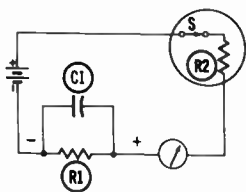

Fig. 9-14 Grid and cathode act as a closed switch when grid is positive with respect to the cathode.
If we look at the grid and cathode of the tube as a switch (S) in series with a resistor (R2), as shown in Fig. 9-14, the switch will be closed during the positive half cycle. A battery is shown as the signal source. Current obviously will flow through the circuit, and the meter will so indicate.